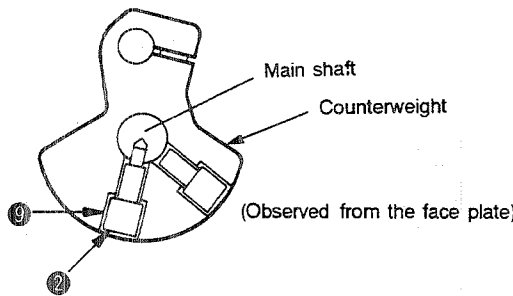
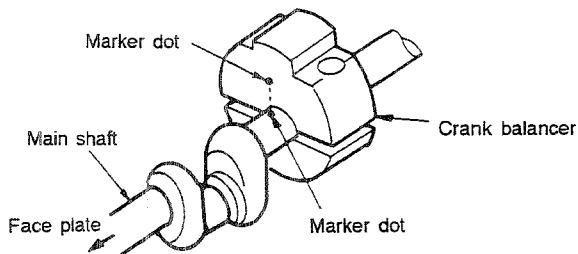

Fig. 5-56-3
Fig. 5-56-4
- 2) When fixing the counterweight, be sure to insert setscrew ② into screw hole ①, and fix so that the taper of the top end aligns with the taper hole in the main shaft. (Fig. 5-56-3)
- 3) Install the main shaft thrust collar referring to the "STANDARD ADJUSTMENTS (35)." (Position the oil groove so that it faces toward the center bushing.)
- o Intermediate presser cam STANDARD ADJUSTMENTS (20)
- o Bobbin winder driving wheel STANDARD ADJUSTMENTS (24)
- o Thrust collar of the thread trimming cam STANDARD ADJUSTMENTS (15)
- o Thread trimming cam STANDARD ADJUSTMENTS (15)
- 5) When fixing the crank rod cover, refer to the "DISASSEMBLY/ASSEMBLY PROCEDURES (45)."
- 6) When fixing the crank balancer, make sure that the marker dot on the main shaft aligns with the marker dot on the crank balancer. (Fig. 5-56-4)
- 7) When installing the handwheel and the generator stator, refer to the "DISASSEMBLY/ASSEMBLY PROCEDURES (43)."